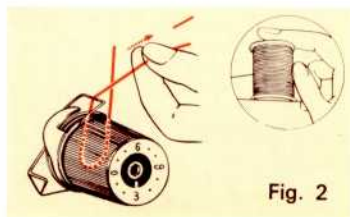

Fig. 2
Place thread on spool pin as shown with thread coming from back of the spool. Draw thread through the top threading tube. Holding the spool stationary with right hand, pull the end of the thread between the tension discs as shown. Pull the spring wire loop up and past the top hook until the thread can be slipped into hook (See Fig. 2).
2. Pull end of thread through hole in bobbin as shown in Fig. 2.